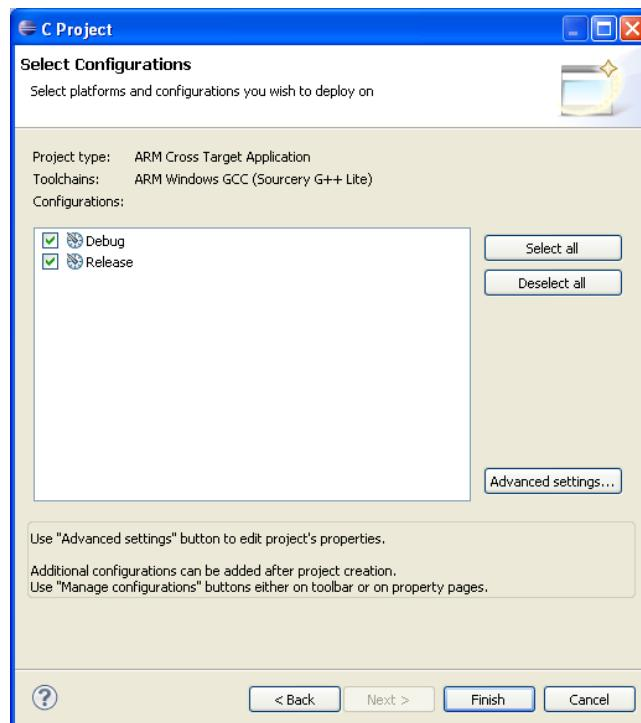

Figure 14.6 Configuration Window
- Make sure the selection are same as shown in figure 14.6